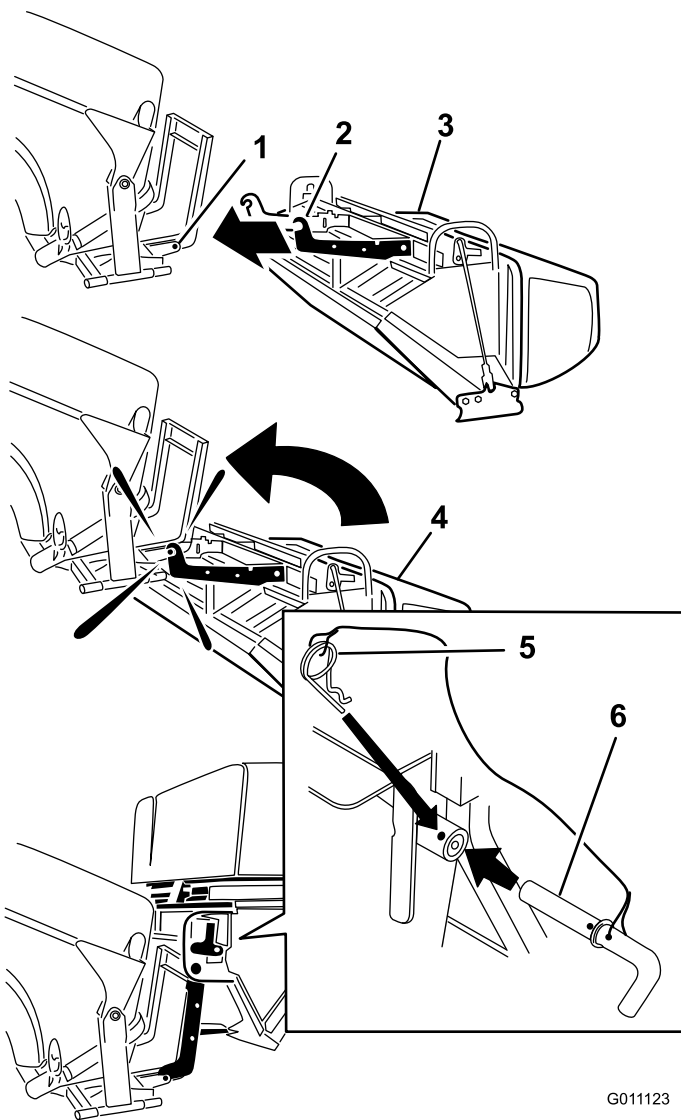

Figure 11
1. Position the bagger on its back (Figure 11).
2. Slide the hooks onto the lower mounting bracket (Figure 11).
4. Align the hole in the bagger with the upper mounting bracket (Figure 11).
5. Install the pin and secure it with the hairpin cotter pin on both sides (Figure 11).